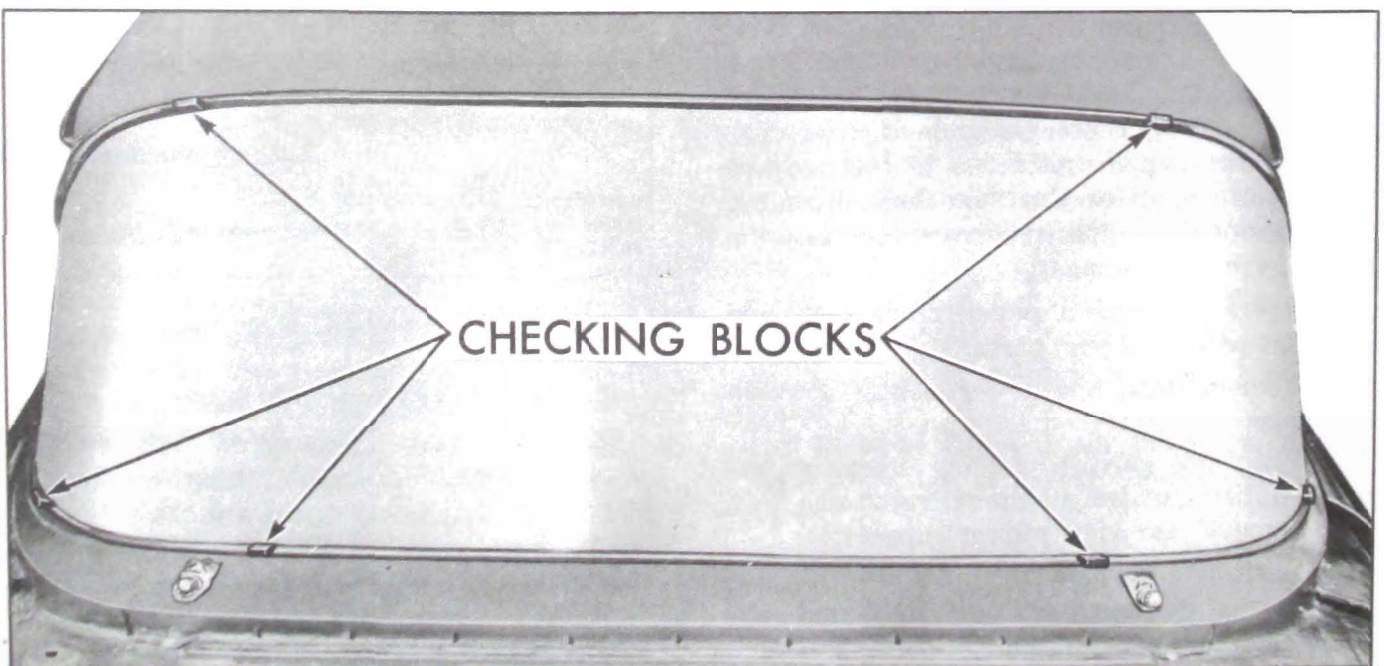

Figure 13-173—Spacer Position for Pinchweld Alignment
3. Support and center new glass in windshield opening with six spacers located as shown. **CAUTION:** *Be certain that glass does not strike body metal during this temporary installation. Chipped edges can result in future breaks. See figure 13-173.*